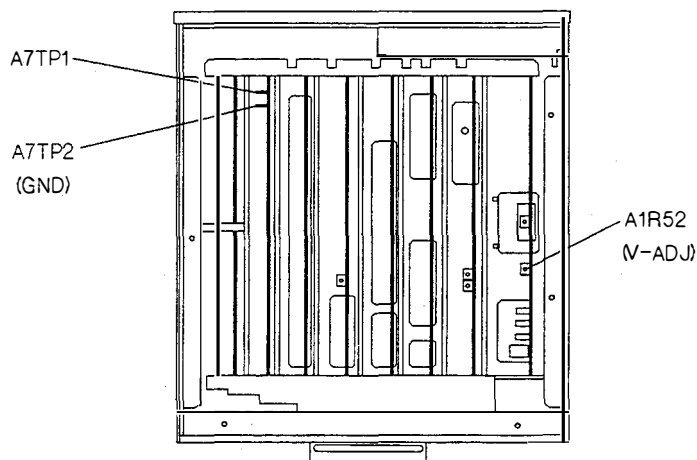

Figure 2-7. Power Supply Voltage Adjustment Location
3. Connect multimeter's Lo input to A7TP2 (**GND**), and connect the Hi input to A7TP1. Figure 2-7 shows the location of A7TP1 and A7TP2.
4. Turn A1 R52 (**V-ADJ**) fully **CCW** (Counter Clock-Wise). Figure 2-7 shows A1R52's location.